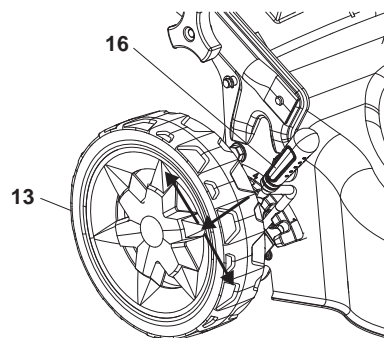

Fig. 14
1. Pull the lever (16) towards the wheel (13), then move it forward or backward to adjust the cutting height (Fig.14).